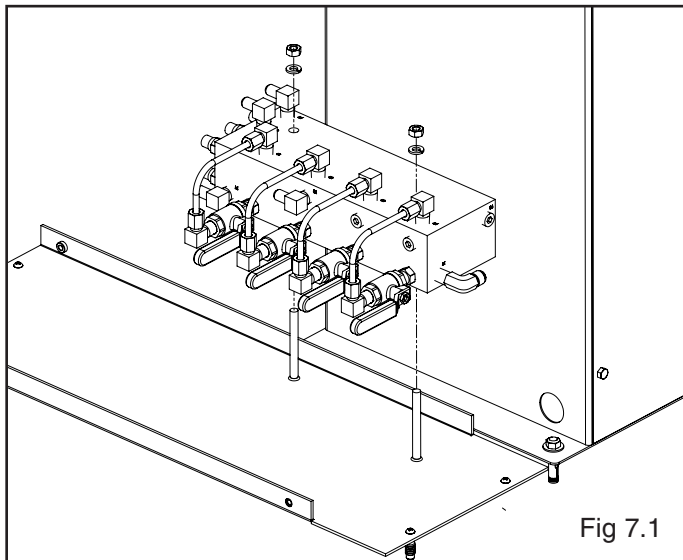

Fig 7.1
1. Align the through holes of the Valve Block Assembly with the screw studs that are protruding from the Valve Plate and set the Valve Block down on to the plate. Using two M8 Spring Lock washers and two M8 nuts, affix the Valve Block to the Valve Plate. (See Fig 7.1)